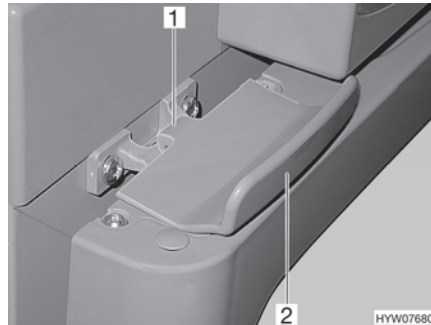

Fig. 138 Lock of refrigerator door, closed (Thetford)
- Open the refrigerator door at the handle (Fig. 138,2). The lock (Fig. 138,1) is released automatically.